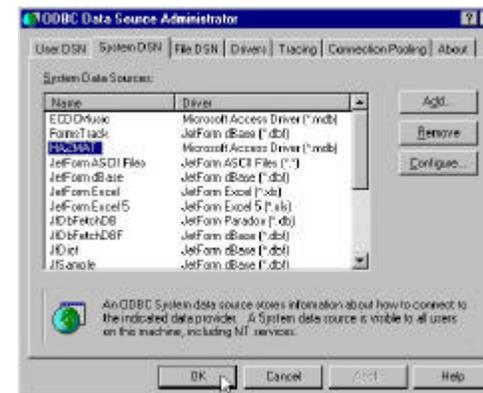

Figure 9: Confirm that HAZMAT is now listed, then click OK.
- After you select the ExportWS.mdb file and click OK, you should now see "HAZMAT" listed on the System DSN tab of the ODBC Data Source Administrator. You can now click **OK** as shown in Figure 9 to exit. Your DSN connection is ready to go.